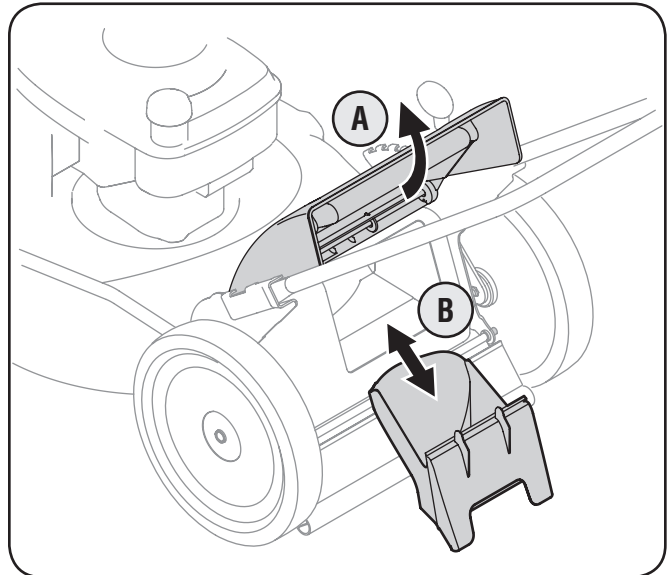

Figure 3-5
- b. Remove rear mulching baffle. See Fig. 3-5.